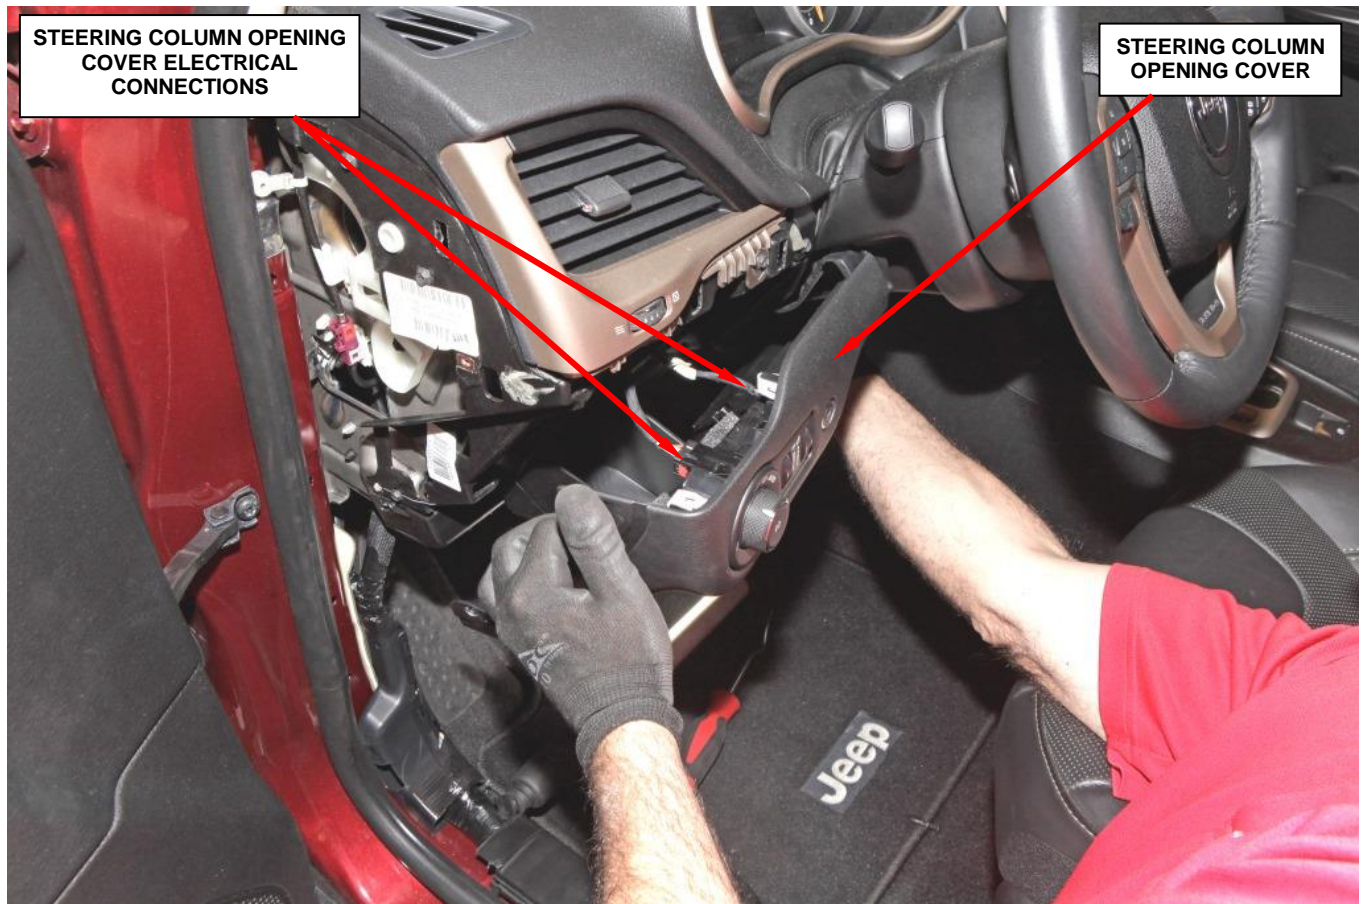

Figure 2 – Disconnect Electrical Connectors and Remove Steering Column Opening Cover
6. Pull the steering column opening cover back and disconnect all electrical connectors (Figure 2).
7. Remove and save the steering column opening cover (Figure 2).
16. Install the steering column opening cover into position on the instrument panel and connect all electrical connections (Figure 2).